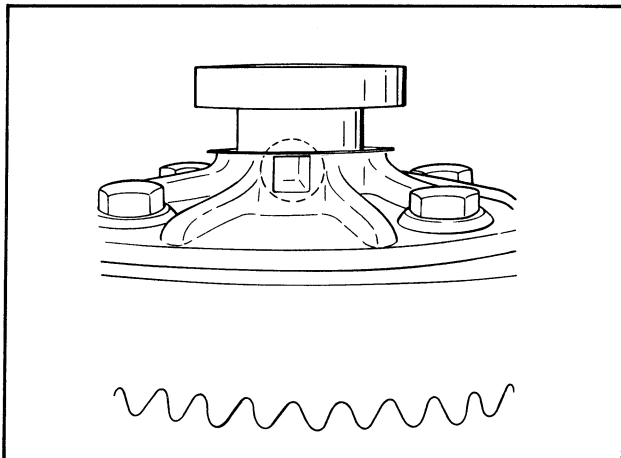

Figure 24 – Recess For Puller
- i. Remove bearings (3) if they are worn or damaged. (Do not remove differential bearings unless bearing failure is evident.) If removal is necessary, care must be taken to ensure that bearing puller jaws are located in cast recesses of differential case so the puller jaws will apply their force to the inner bearing race and not the bearing cage, Figure 24.
- j. Remove shims (11). Band or wire shims together to avoid losing them.